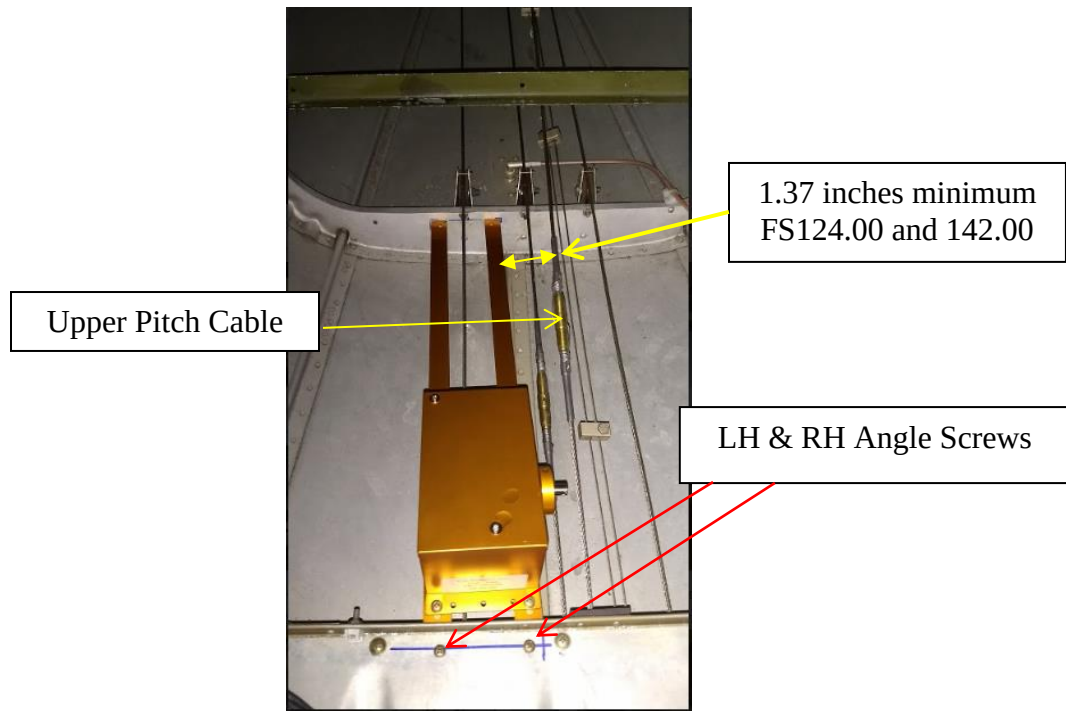

FIGURE 3-10 UPPER PUTCH CABLE
23. Using the clip as a drill guide, drill four (4) #40 holes through the FS 142.00 bulkhead.
24. Drill the outboard holes first then drill the inner two (2) holes.
30. Clamp the LH and RH angles into position at FS 124. Refer to Figure 3-10 and 3-11.